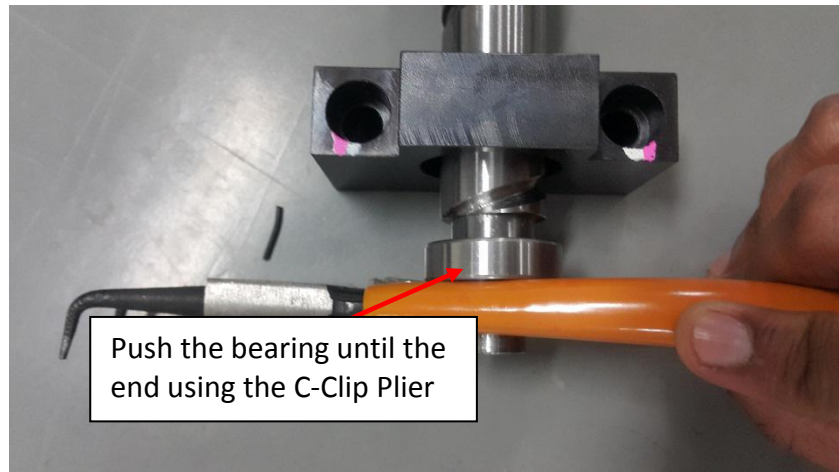

Figure 33 Bearing installation
27. Using the C-Clip Plier, push the bearing until the end of the ball screw as shown in Figure 33.